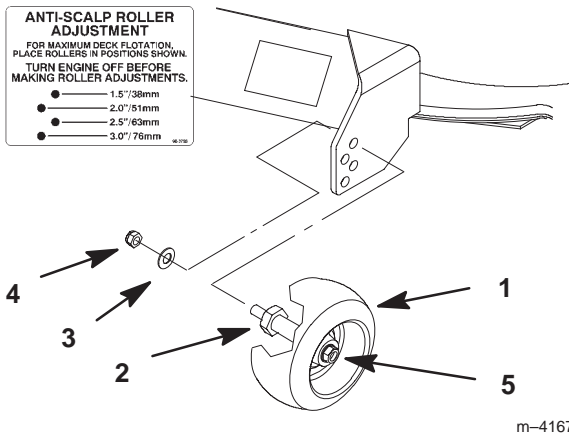

Figure 12
2. After adjusting height-of-cut remove nut and washer while holding stud with wrench (Fig. 12).
- Note:** Do not remove the wheel nut and washer (Fig. 12).
3. Select hole so gage wheel is positioned to the nearest corresponding height-of-cut desired (Fig. 12).
4. Reinstall the stud nut and washer (Fig. 12).